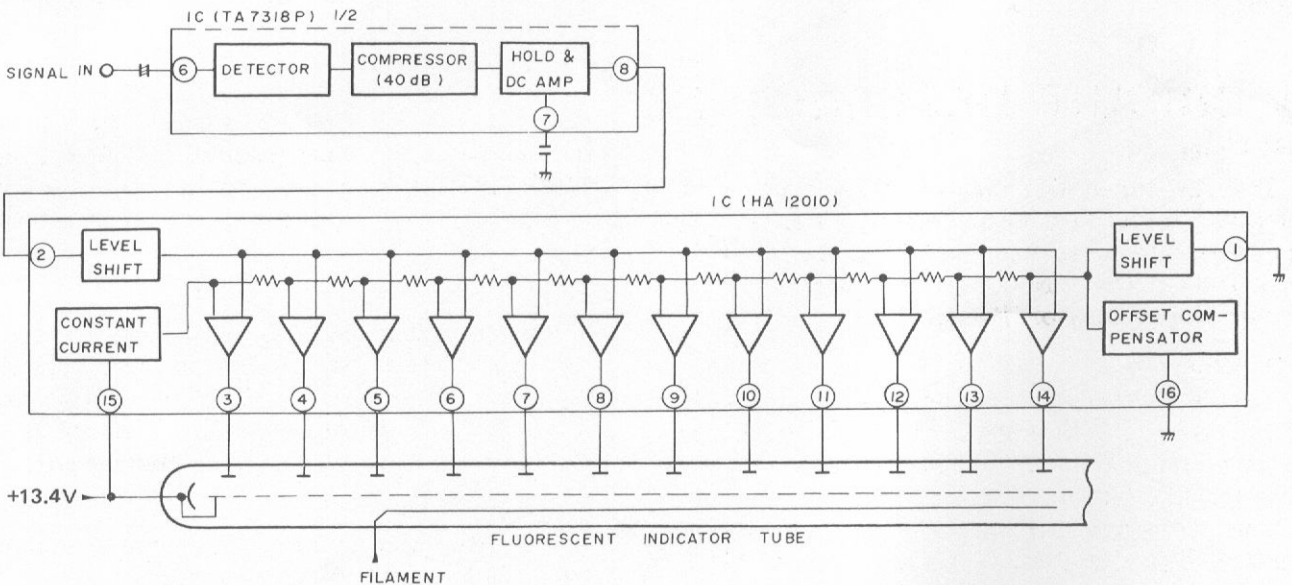

Fig. 4-1 Power indicator circuit
An outline of the FL tube drive circuit is shown in Fig. 4-1. The output circuit signal is applied to pin no.6 (4) of the IC (TA7318P-A). The IC contains a detector circuit, compressor (40dB), and peak hold circuit for both left and right channels. The dynamic range of the signal is thus contracted by 40dB to obtain a “peak held” DC voltage.